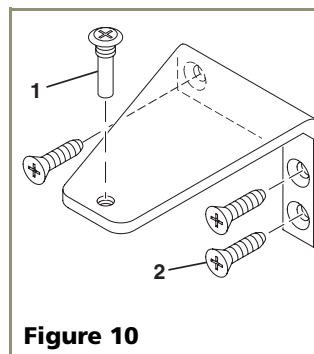

Figure 10
3. Remove top hinge (3 screws), reinstall hinge screw pin, and remount on opposite side BOTTOM (see **Figure 10**).